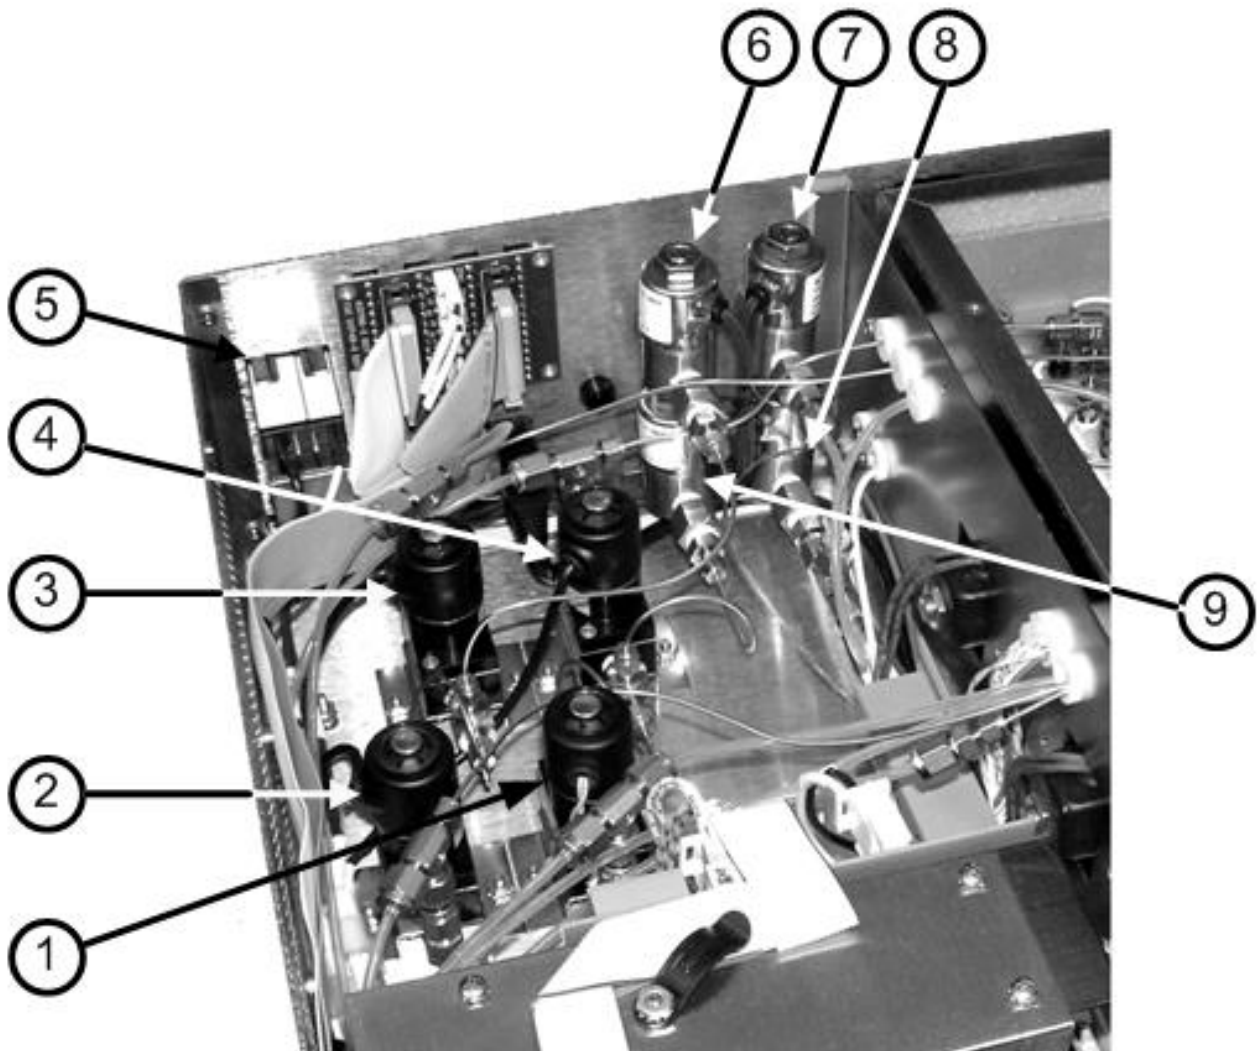

Figure 9-3 Model 600 MHFID Interior Layout
10. **Heated Oven:** Maintains all sample handling components at a factory pre-set temperature of 190 °C. (See also Figure 9-3 for more detail)